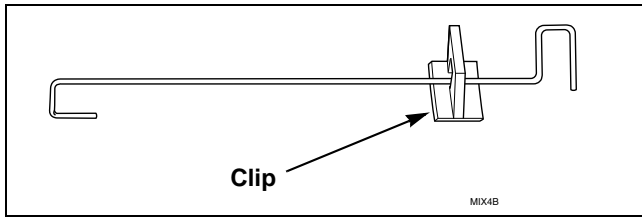

Figure 6
9. Remove clip from spring. Refer to *Figure 6*.